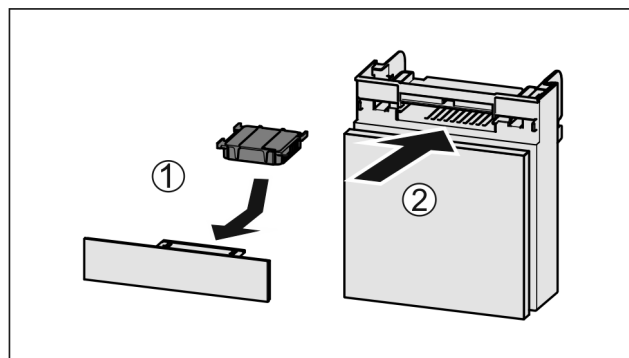

Fig. 170
- Insert the carbon filter as shown in the diagram Fig. 170 (1).
- Push the compartment in Fig. 170 (2).